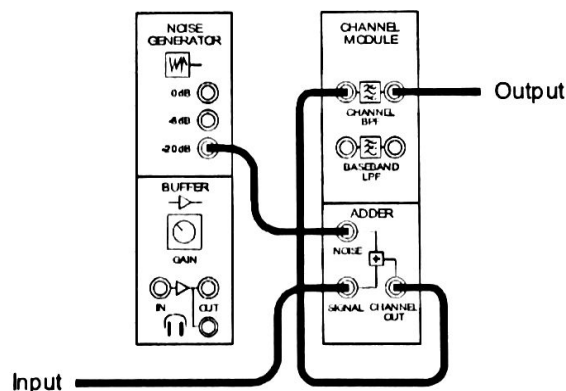

Figure 1
1. Connect the set-up shown in Figure 1 below but **don't** disconnect any of your existing wiring.